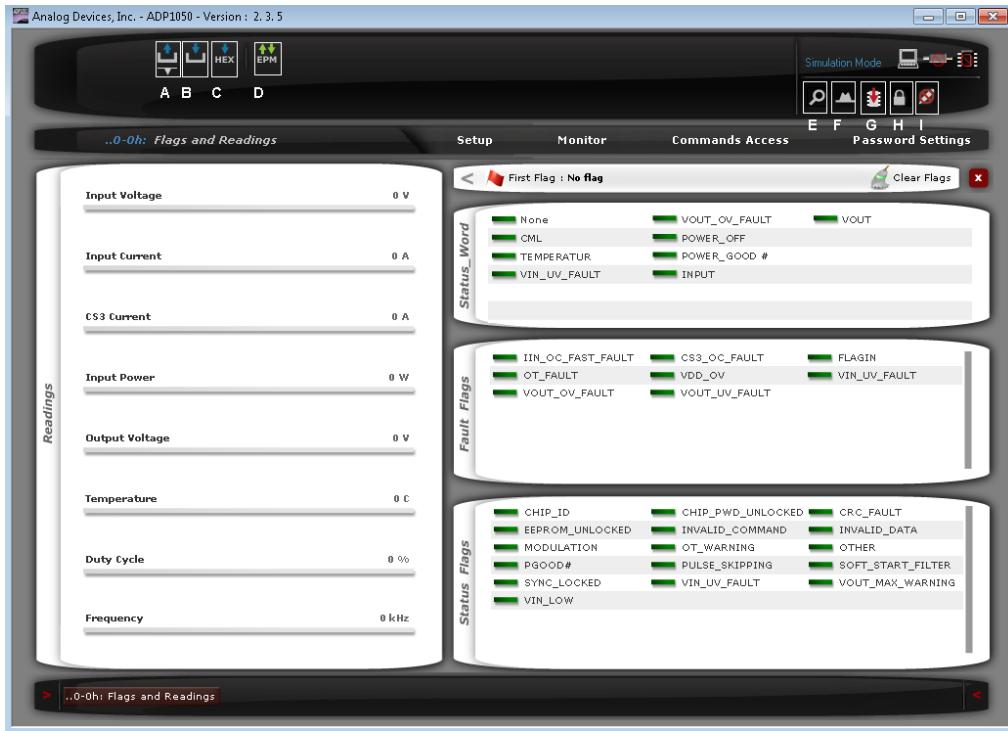
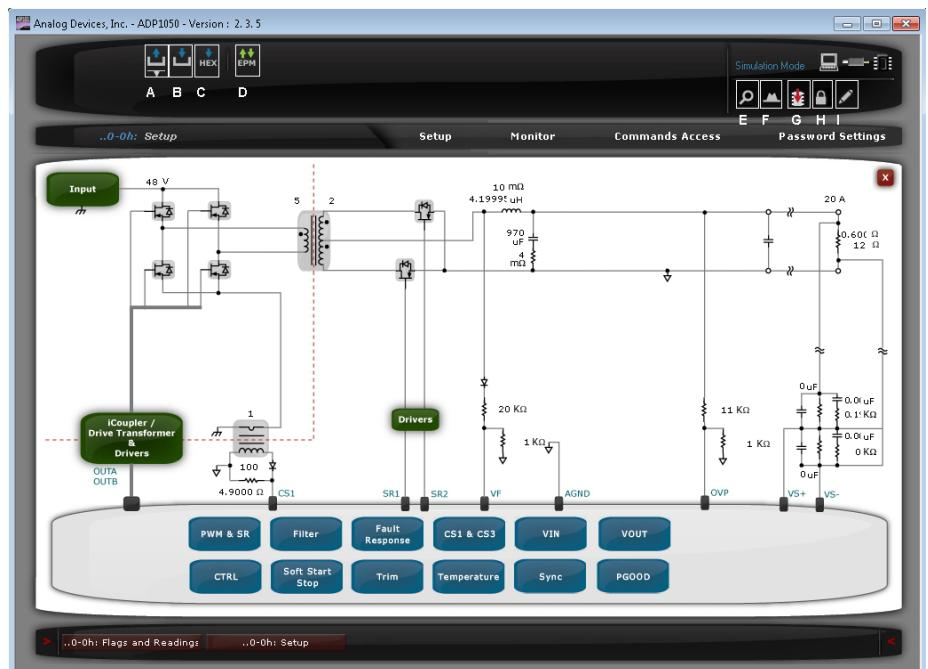

Figure 10. Monitor Window in the GUI
Figure 11. Main Setup Window of the GUI (See Table 6)
7. Click **Finish** to proceed to the **Monitor** window (see Figure 10).
8. Click **Unlock the chip password** (Button I in Figure 10) and enter the chip password in the pop-up window that appears. The default chip password is 0xFFFF. Press **ENTER** after typing in the password to proceed to the **Setup** tab of the main window, as shown in Figure 11.
If the user wants to load the default command and board settings file from a local folder, click **Load Command and Board settings from a .50s file to the ADP1050 device** (Button A in Figure 11) and select the **ADP1050-240-EVALZ-**
After completing the programming of the **ADP1050**, click **Program command and board settings into the EEPROM** (Button G in Figure 11) to program the command and board settings into the EEPROM if the user wants to save the settings in the device. Moreover, the user can use the **Save command and board settings from the ADP1050 device to a .50s file** button (Button B in Figure 11) to generate a .50s file for the command and board settings.
Figure 11 shows the main window. There are four tabs in the main window: